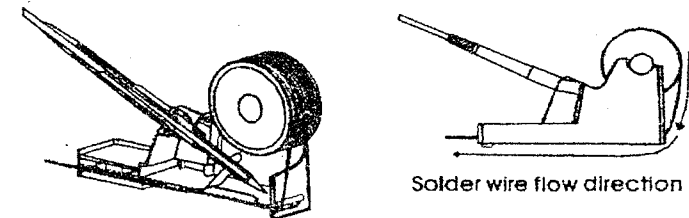

Figure 2. Soldering iron stand with solder wire holder
1. Install the solder wire to the soldering iron holder as in Figure 2.